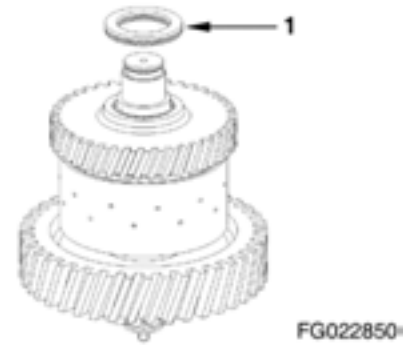

Figure 173
3. Remove axial bearing assembly (1, Figure 173).